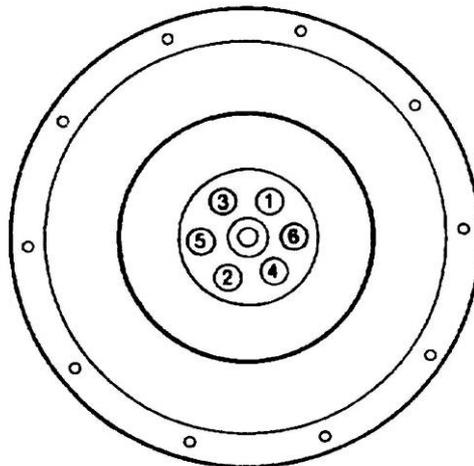

Figure 51 Flywheel Bolt - Tightening Sequence
- ss. Position the flywheel on the crankshaft, lock the flywheel to prevent it from turning, smear the threads of the retaining bolts with engine oil and install the bolts. Torque the bolts, in the sequence shown (Figure 51), to 142 to 172 N.m (105 to 127 lbf.ft).